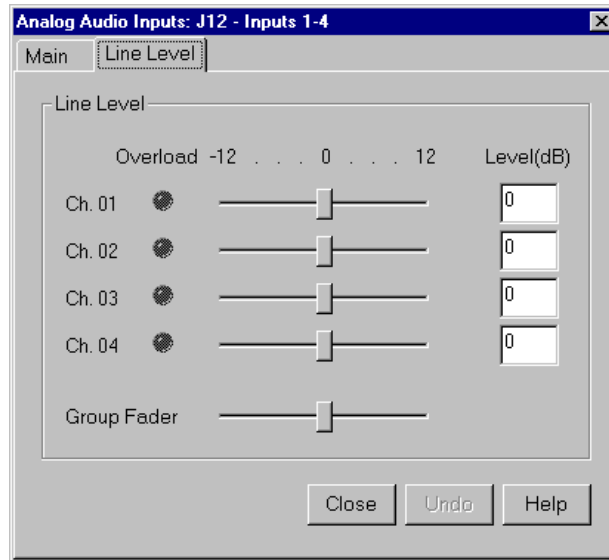

Figure 32. Analog Audio Input dialog box, Line Level tab
1. In the Analog Audio Input dialog box, click the Line Level tab (Figure 32).